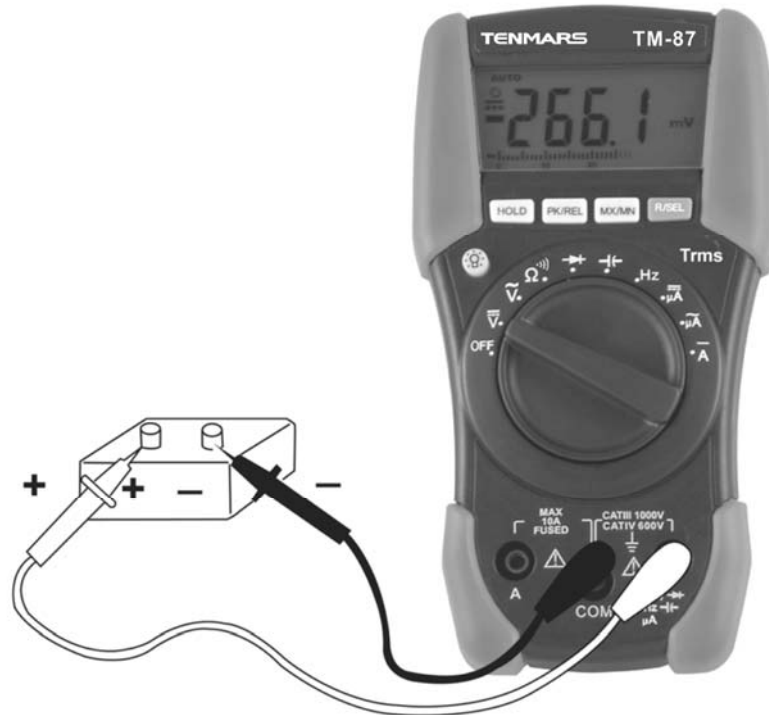

Fig. 2: Using the meter for DC Voltage measurement
3. Insert the test leads into the jacks, the red plug into **V $\overline{\text{---}}$**  **V $\Omega\mu\text{A}$**  jack and black plug into **COM** jack (see Fig. 2).